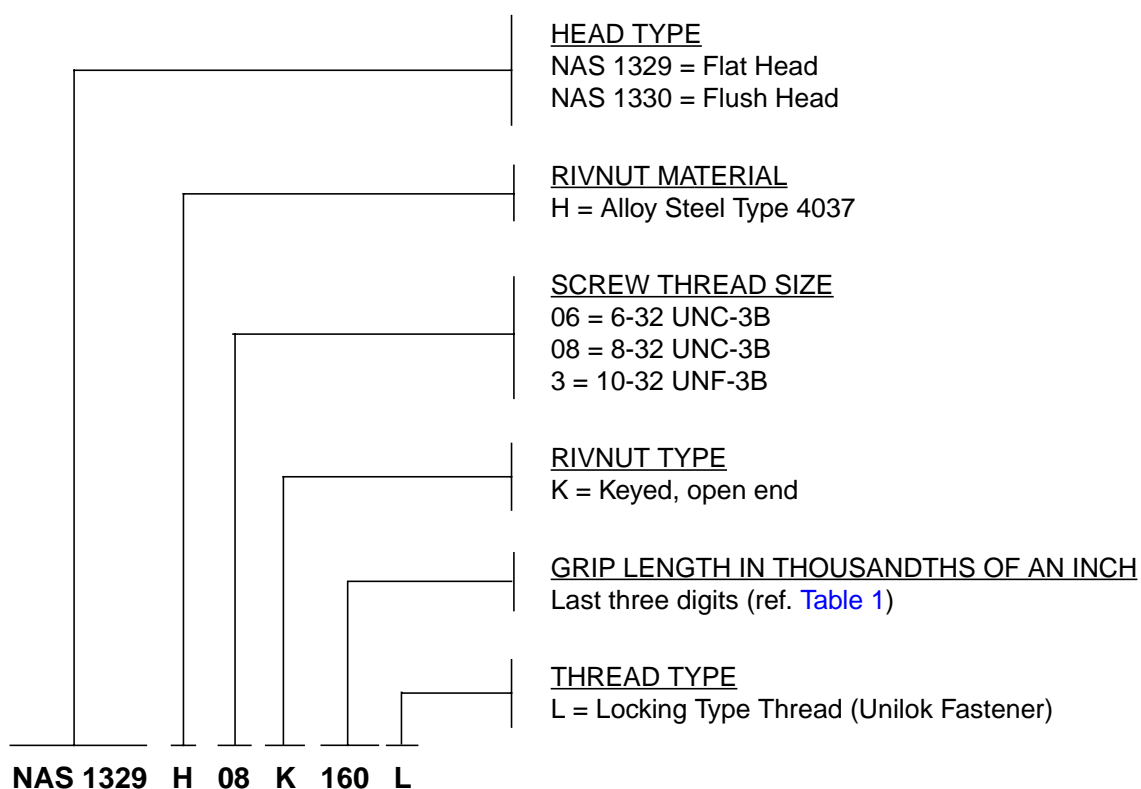
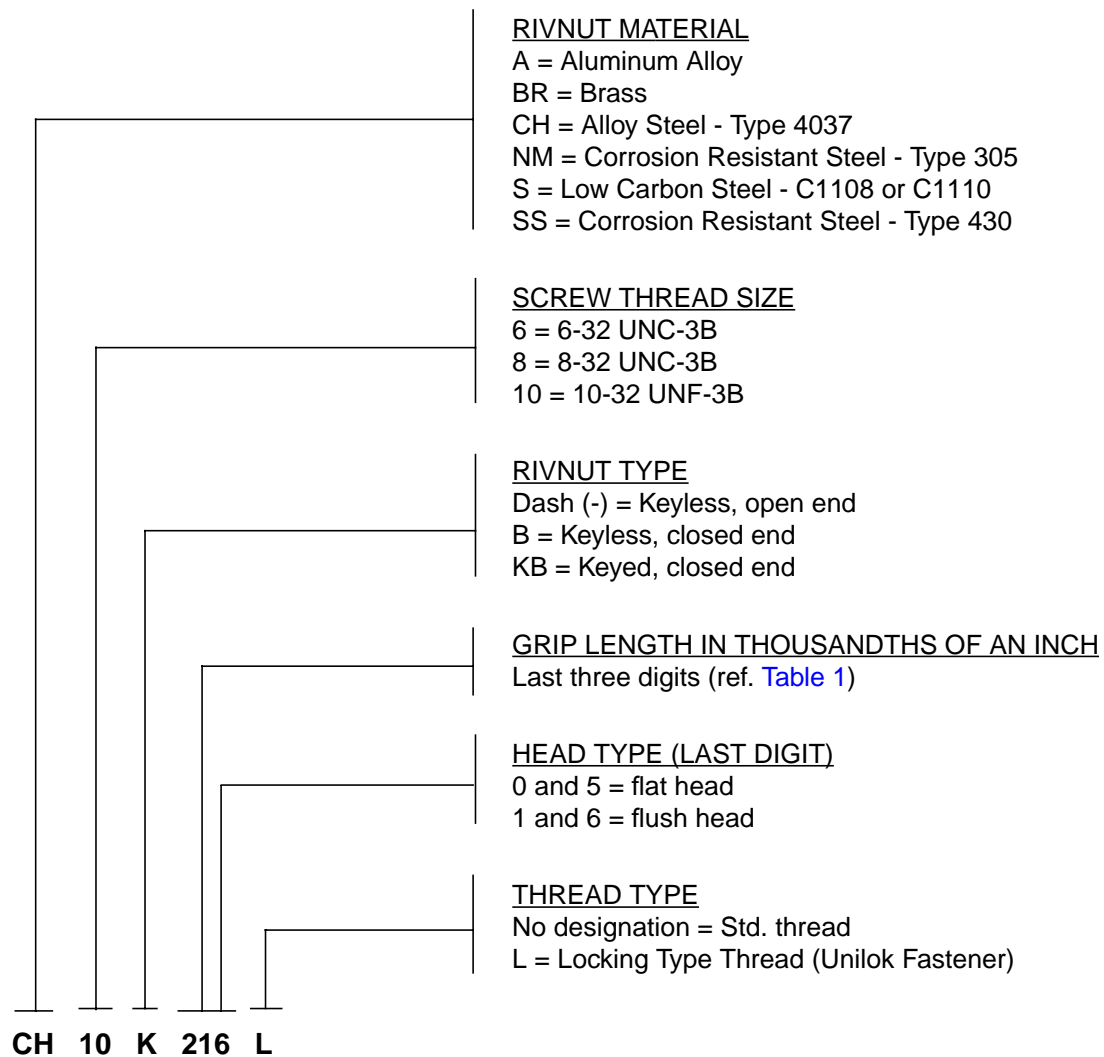
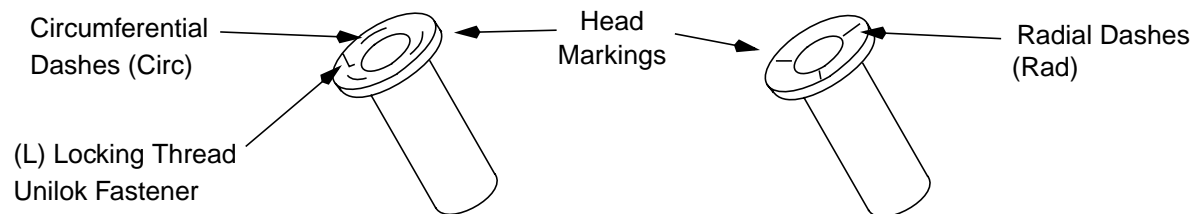

Figure 1 - NAS Part Number Breakdown
Figure 2 - Rivnut Part Number Breakdown
Figure 3 - General Description of Rivnut Fastener
- 4.1.1 Rivnuts as specified on the engineering drawing. Refer to Figure 1 for a breakdown description of the NAS part number code. Refer to Figure 2 for a breakdown description of the Rivnut part number. Refer to Figure 3 for a general description drawing of the Rivnut fastener. Refer to Table 1 for a listing of fastener grip ranges and head identification markings, consisting of either radial or circumferential dashes equally spaced on the Rivnut head.